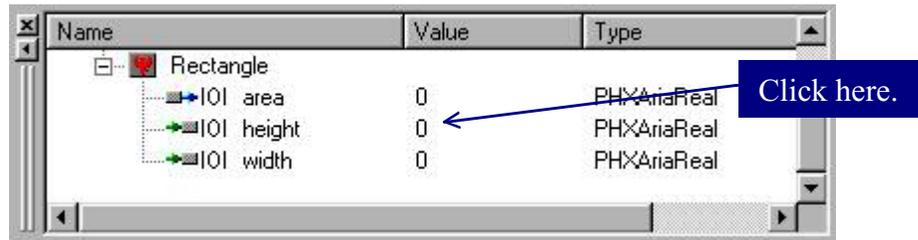

Figure 14. The Data Monitor with the component expanded and ready for modification
2. Select **height** from the Data Monitor and click on the number in the **Value** field. This will allow you to modify the value for height. Enter **2** as shown in Fig. 14.